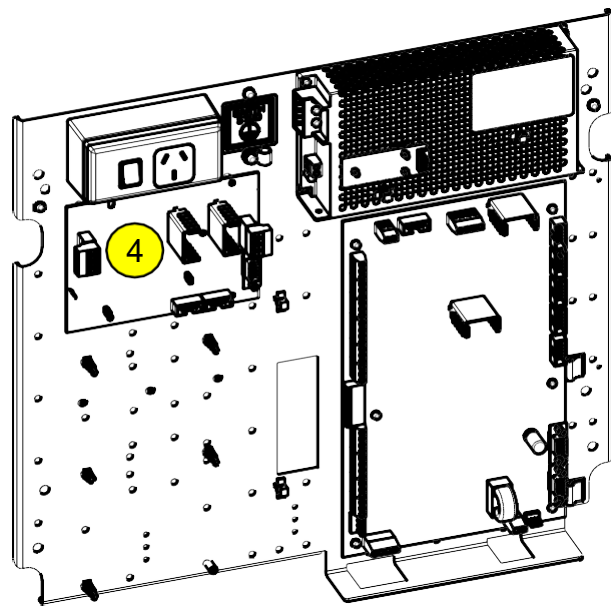

Figure 4b – Gear Plate Locations
- Flat on the gear plate – see Figure 4b. Use this position if the other choices are not available.